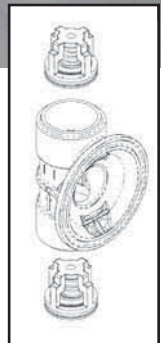

Figure 15
2. Diaphragm / Valve Casing Assembly: (Fig. 15)